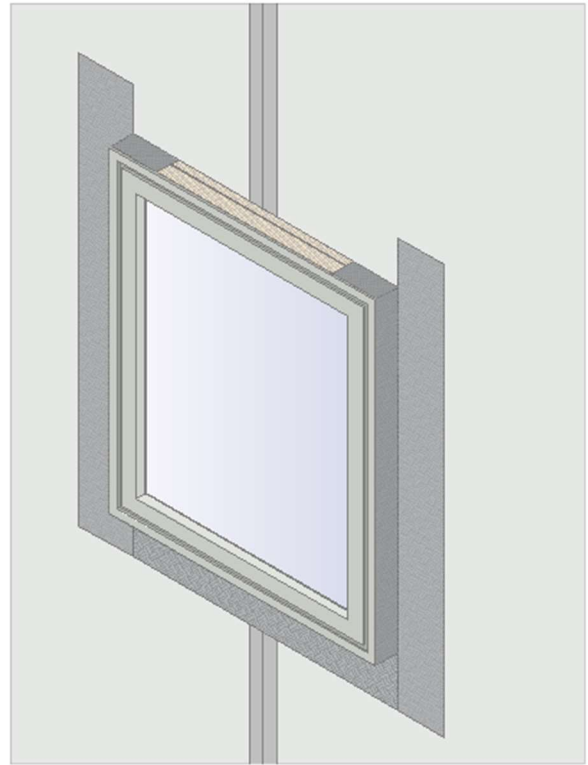

Figure 11
- Repeat the procedure for the other jamb (Figure 11).